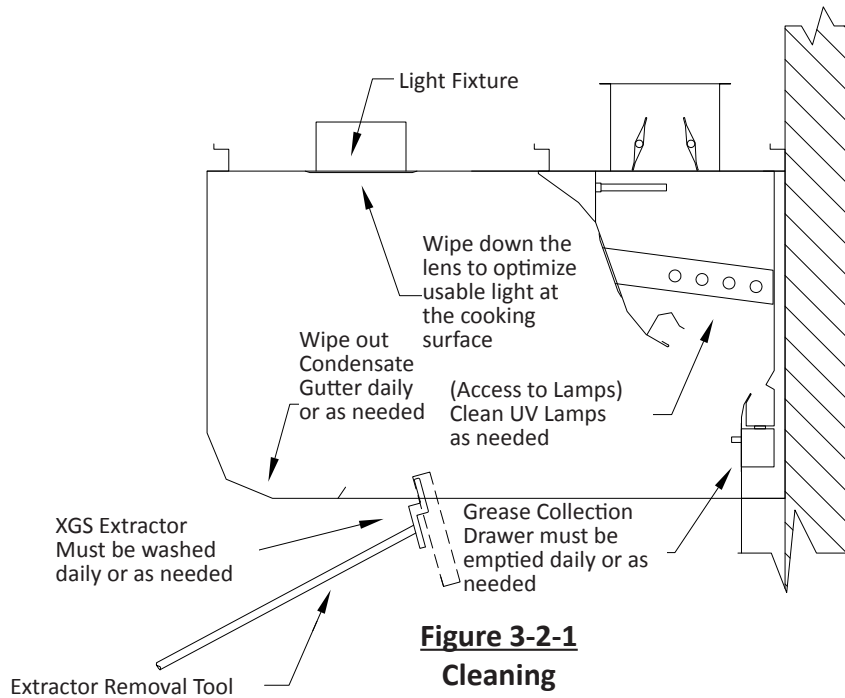

Figure 3-2-1
1. Remove Extractors: **CAUTION:** Care should be taken when removing the Extractors, especially over fryers. It is recommended that the cooking equipment be cooled down and the fryers be covered prior to removing the Extractors. They may be removed by hand or by use of an optional Extractor Removal Tool (Refer to Figure 3-2-1). To remove, lift up slightly on the Extractor and pull out from the bottom, then straight down.